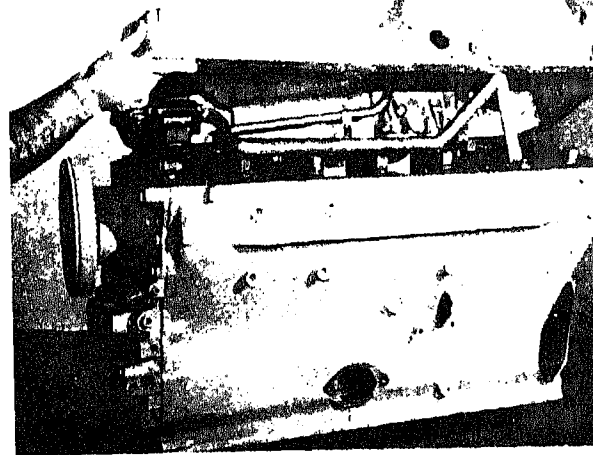

Fig. 0-41. Removing oil pan
3. Lift oil pan and gasket from block, Fig. 0-41; discard gasket.